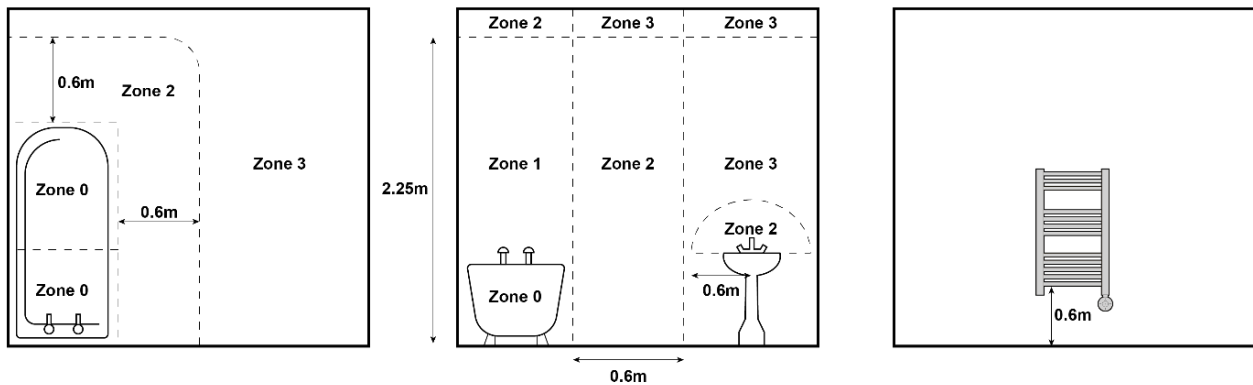

Figure 3
- **WARNING:** In order to avoid a hazard for very young children, this appliance must be installed so that the lowest heated rail is at least 600 mm above the floor (see Figure 3).
WARNING: In order to avoid a hazard for very young children, this appliance should be installed so that the lowest heated rail is at least 600 mm above the floor (Figure 3).
- Do not install SOLO into a towel rail fitted in ZONE 0 or ZONE 1 (Zone definition IEC 60364-7-701 in Figure 3).